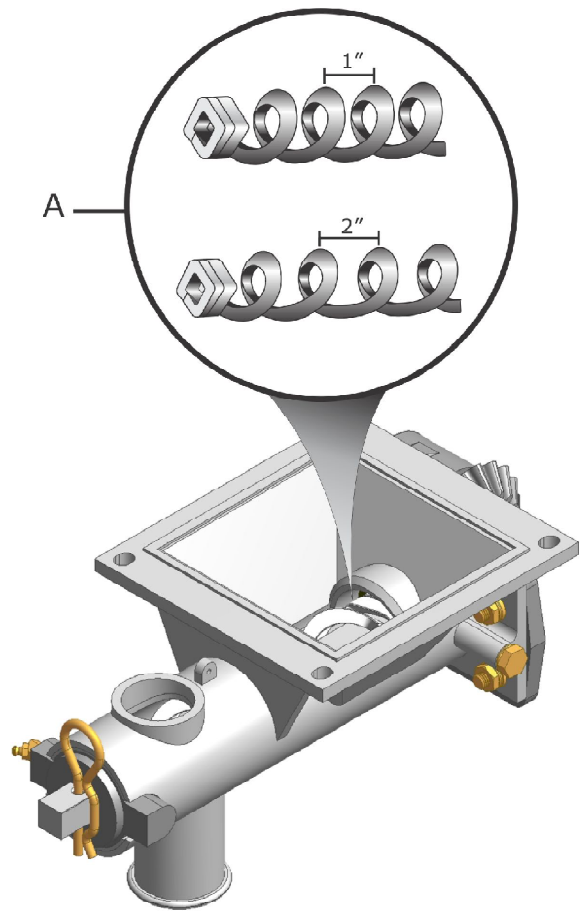
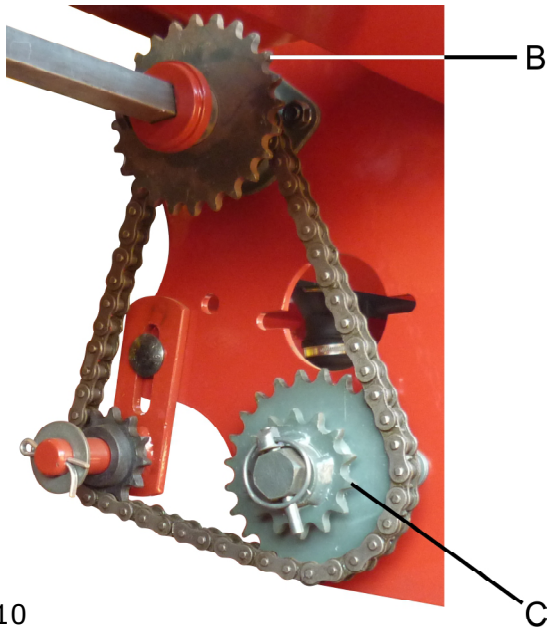
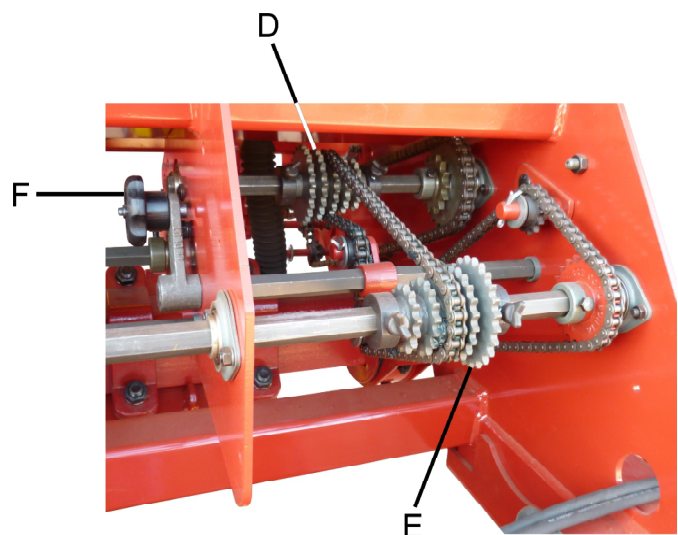

fig. 09
fig. 10
fig. 11
Adjusting the amount of fertilizer in Kg/ha is performed through the endless thread (A) (fig. 09) and the exchange of drive (B) and driven sprockets (C) (fig. 10), driven (D) and drive "sprocket set" (E) (fig. 11), being that the fertilizer is moved through the endless threads (A) (fig. 09).
To adjust the "sprockets set" it is need to let loose the stretcher (F) (fig. 11).
Verify if the flow rate obtained is really desired. If necessary change the transmission ratio through the exchange of sprockets Z14/24 (B/C) (fig. 10).